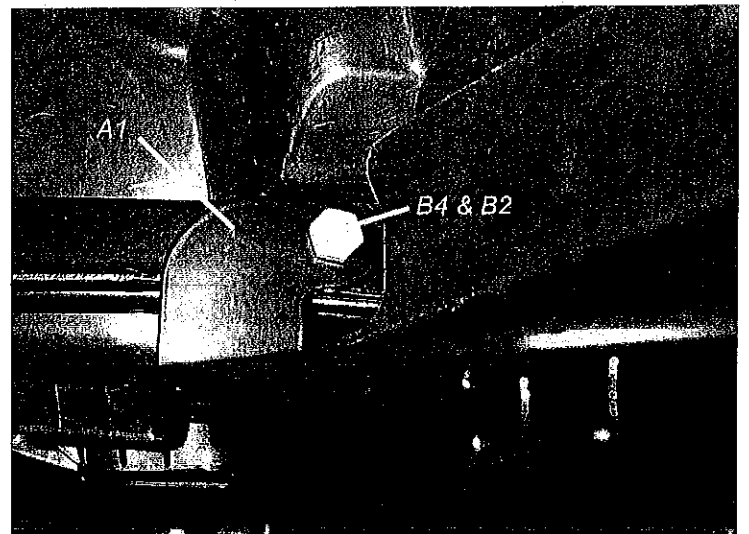

Figure 3 - Plow Mount Location
3. Place the plow mount (A1) into position over the spacers (B5), figure 3. Loosely secure the plow mount with two M8 X 45mm bolts (B4), 5/16" washers (B2), and the M8 nuts removed in step 1.